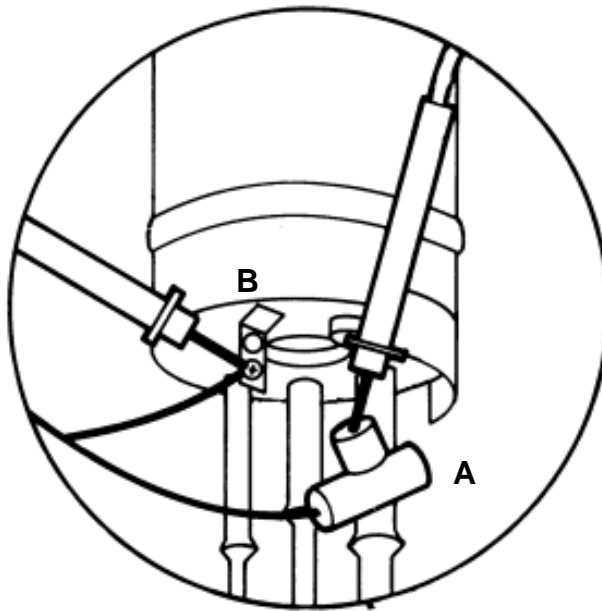

Figure 1
1. Remove wire from compressor as shown in Figure 1. Measure the Power Supply Output Voltage between Point A and Point B.
2. With wire attached to the compressor, measure the AC output of the Power Supply to the compressor between Point A and Point B (Figure 1).